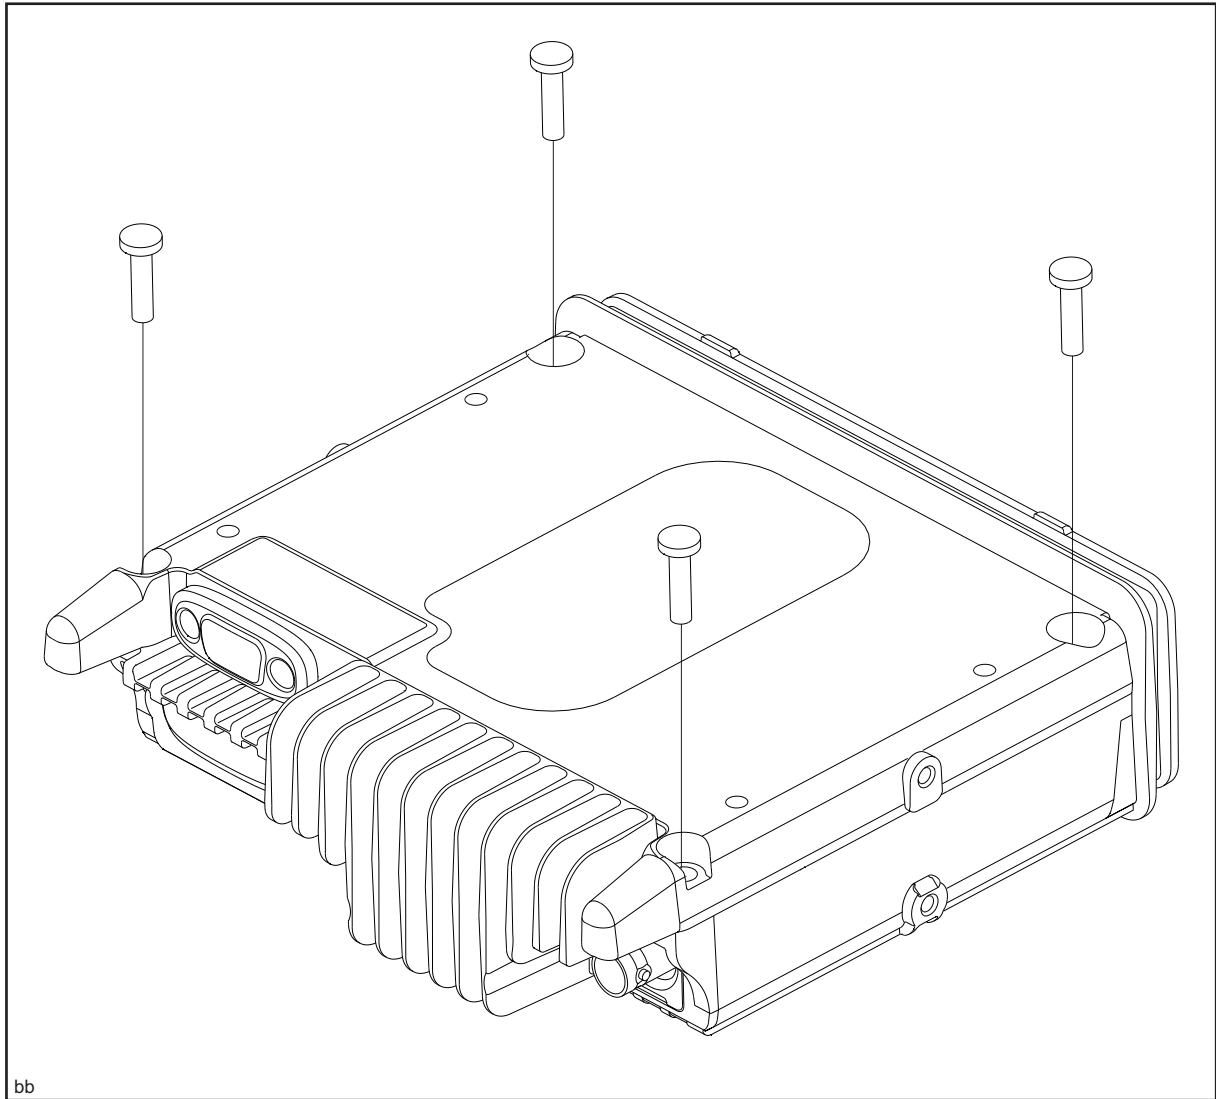

Figure 3.6 The four screws that secure the lid to the chassis of the radio body
3. Use a Torx T20 screwdriver to remove the four screws securing the lid of the radio body. The screws are shown in Figure 3.6.